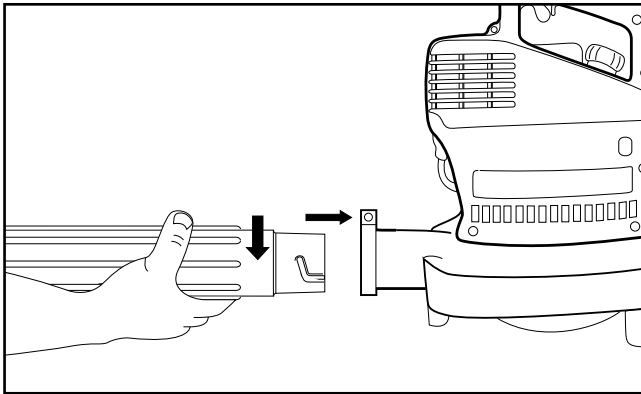

Fig. 1
2. Grasping the tube **firmly** with both hands, push the tube into the blower outlet (Fig. 1). Turn the tube **clockwise** until it snaps into the detent and locks.